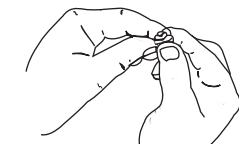

Fig. 33
- Squeeze the filter to spread and remove excess oil (Fig. 33).